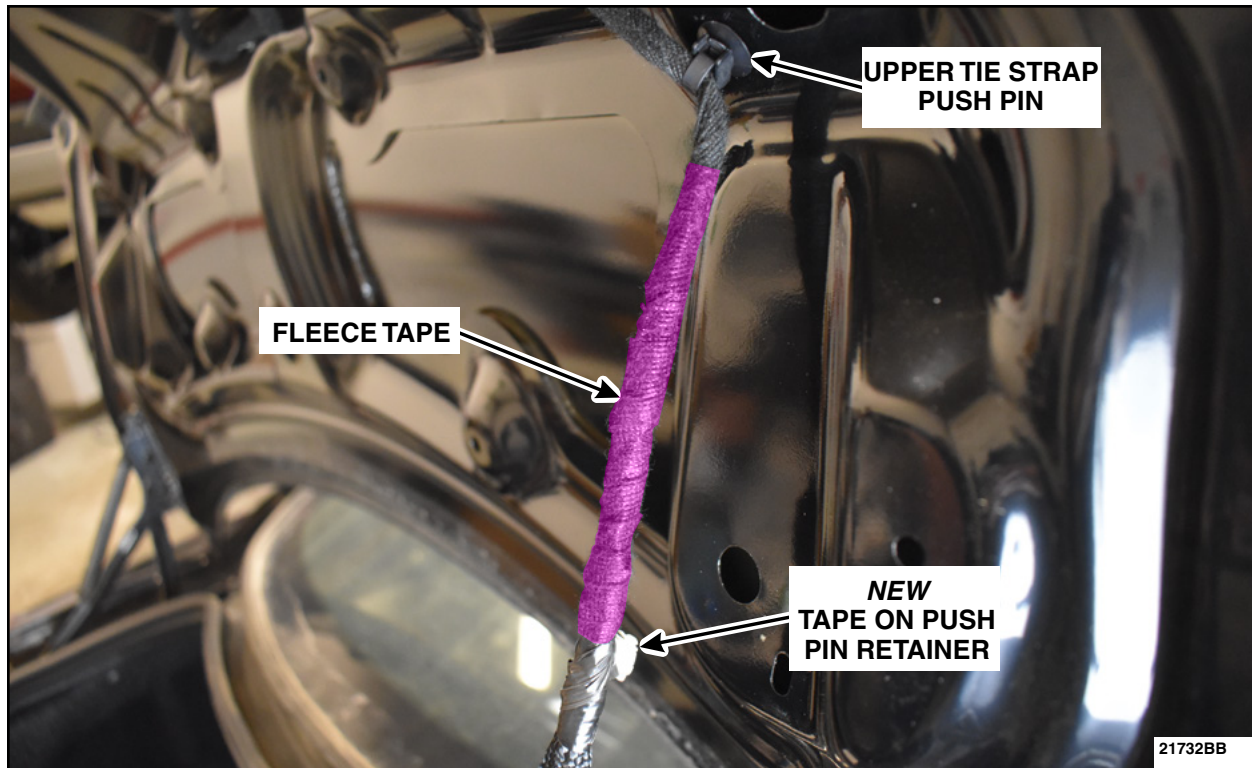

FIGURE 27
36. Apply Tesa® 51608 PET Fleece or equivalent fleece tape from the new tape on push pin retainer all the way to the upper tie strap push pin to cover the remaining exposed wiring. See Figure 27. Install the new tape on push pin retainer into the luggage compartment lid.